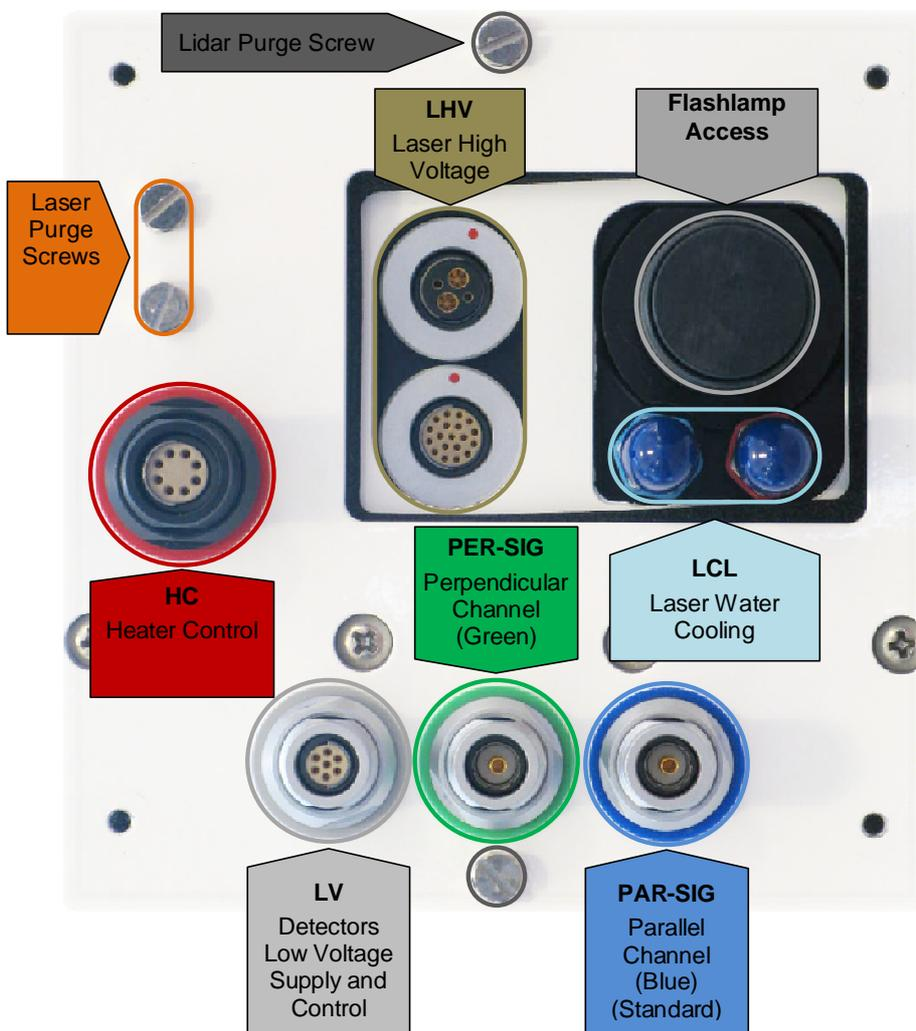

Figure 4: Back Panel of the Optical Head
- Plug the Laser High Voltage cable & data transfer cable (LHV), the Low Voltage cable (LV), and the data cables (PAR-SIG blue coaxial cable and PER-SIG green coaxial cable), according to the respective labels show on Fig. 4.
- Plug the coolant lines by connecting the red-labelled hose to the red-labelled connector on the Laser Head. Repeat the same for the blue hose as shown on Fig. 4.